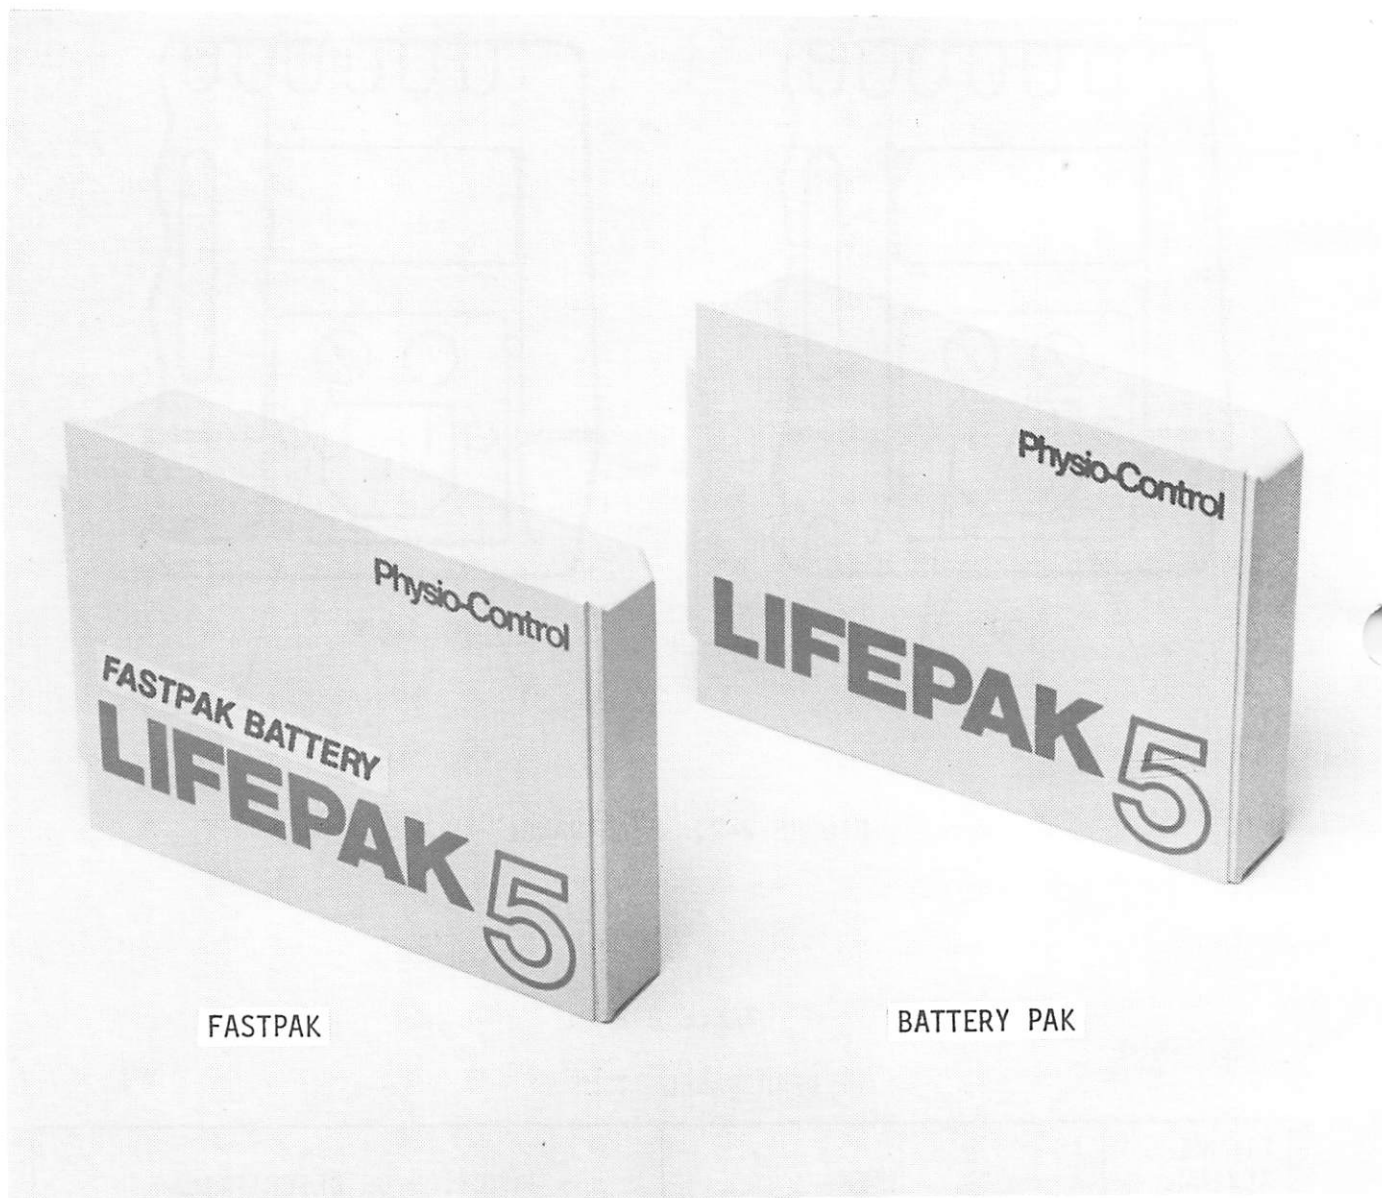

FIGURE 2-3. LIFEPAK 5 BATTERIES
- C. Figure 2-3 shows the two types of battery paks in use.